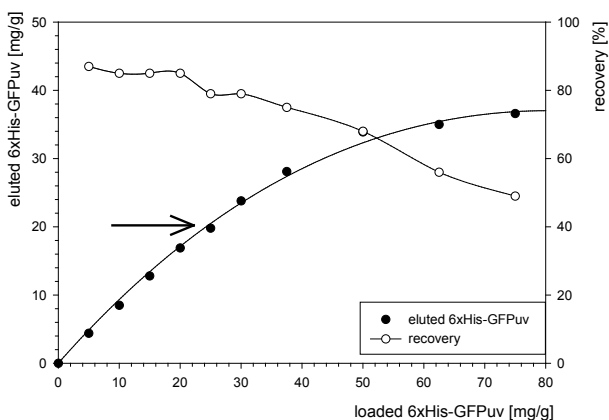
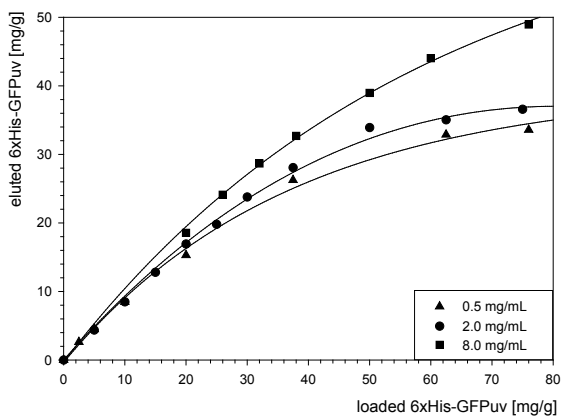

Figure 2: Binding behaviour of 6 x His-GFPuv to Protino® Ni-IDA Resin
Figure 3: Binding behaviour of 6xHis-GFPuv to Protino® Ni-IDA at different concentrations of the polyhistidine-tagged protein in the sample
The binding behaviour of any polyhistidine-tagged protein to Protino® Ni-IDA can be examined by calculating the amount of protein that is eluted as a function of the amount of protein that has been loaded (see Figure 2). Please note that the resulting graph will vary in dependence on characteristics and concentration of the individual His-tag protein. The binding curve can be divided in three stages:
1. Stage of maximum recovery. At this stage the loaded protein is bound to the resin nearly quantitatively and can be eluted nearly quantitatively, too (the binding curve is almost linear, see Figure 2, • eluted His-GFPuv).
Figure 2 shows a plot of the amount of eluted 6xHis-GFPuv against the amount of loaded 6xHis-GFPuv. The binding curve can be divided in three stages:
Under the above mentioned conditions the binding capacity of Protino® Ni-IDA for 6xHis-GFPuv is approximately 20 mg protein per g of resin (see arrow, Figure 2). At this point the protein recovery is > 80%. Consequently the following amounts of 6xHis-GFPuv have to be loaded: For optimal recovery: load ~ 20 mg protein per 1 g of Protino® Ni-IDA Resin, for maximum yield: load ~ 75 mg protein per 1 g of Protino® Ni-IDA Resin.
Recovery rates and yield can be increased by using samples containing higher concentrated polyhistidine-tagged protein (6 x His-GFPuv). Figure 3 shows that the yield of purified polyhistidine-tagged protein is not only depending on the total amount of target protein loaded on the column (also see Figure 2) but also on its concentration in the lysate. Consequently the concentration of target protein in the sample should be as high as possible.